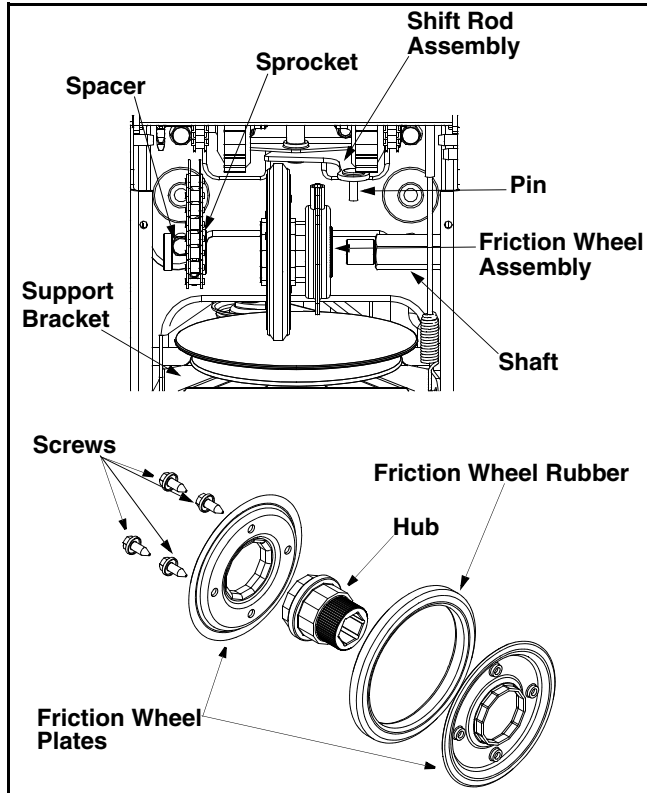

Figure 19
Move the gear shaft to the right and slide the friction wheel assembly from the shaft. See Figure 19.
- Remove the four screws from the friction wheel assembly. See Figure 19.